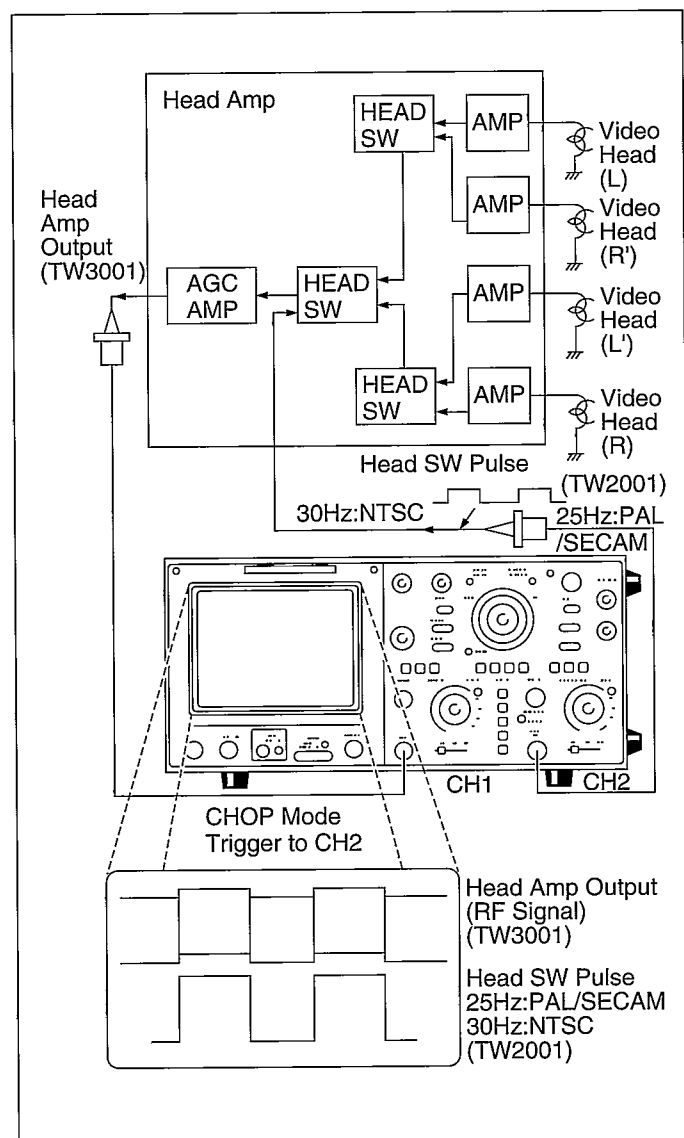

Fig. M6 Connect of Oscilloscope
- (1) Connect the oscilloscope to the output of the Head Amp as shown in Fig. M6.
NOTE: To get a stable waveform of the Head Amp output (observation point TW3001 and TW2001 located on Main C.B.A.) on the oscilloscope, use the head switching pulse as a triggering signal as shown in Fig. M6.
- (2) Playback the Alignment Tape.
- (3) Make sure that the condition of the wrinkle at P4 Post. If the condition of the wrinkle is out of specification, P4 Post adjustment has to be performed as follows.